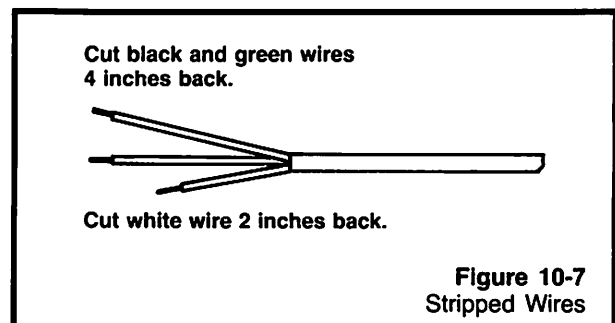

Figure 10-7
4. Carefully strip the lamphouse cable jacket back 4 inches from the end. See Figure 10-7.